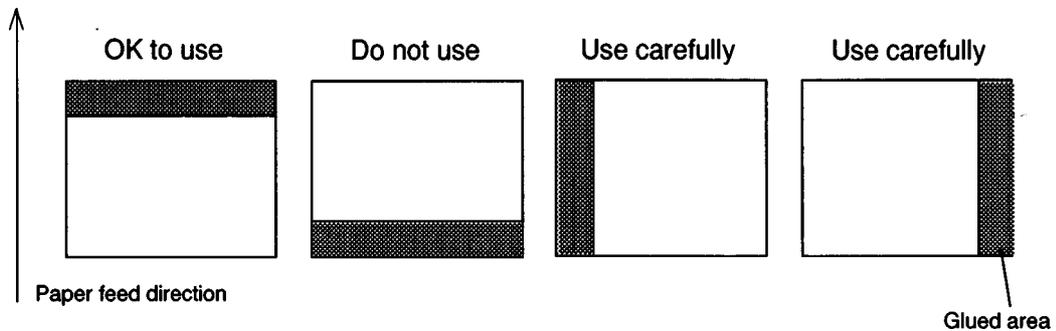

Figure 1.7.1 Slip Paper Glued Area
- ① Paper type: Normal paper
- ② Total thickness: 0.09 to 0.2 mm (.0035 to .0079")
- ③ Size: 68 to 102 mm x 152 to 210 mm (2.68 to 4.02" × 2.98 to 8.27")
- ④ Weight: 70 to 90 kg paper
- There must be no glue on the bottom edge of the slip paper. The glue should preferably be on the top edge. Choose slip paper carefully when the glue is on the right or left edge, since paper feeding and insertion are affected by gluing conditions (e.g., glue quality, method, and length) and glue location (refer to Figure 1.7.1). Be especially careful when the slip paper is wide and has the glue on the right or left edge, since skewing may occur.